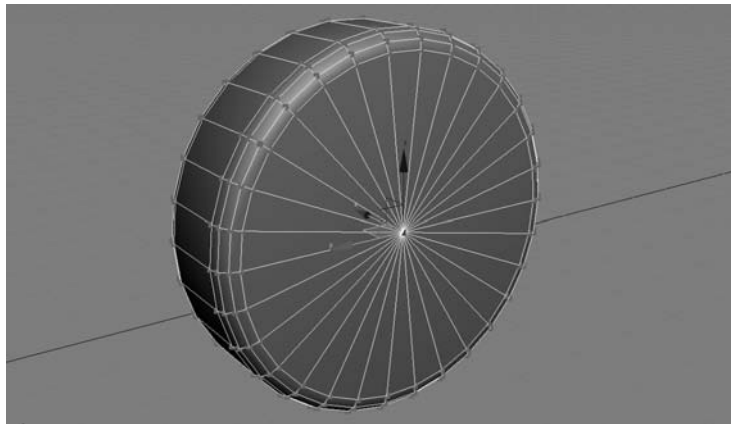

Figure 5.93
4. Convert the Chamfer Cylinder to an editable poly and go into Vertex mode. Select the vertex on the front in the center, as shown in Figure 5.93.